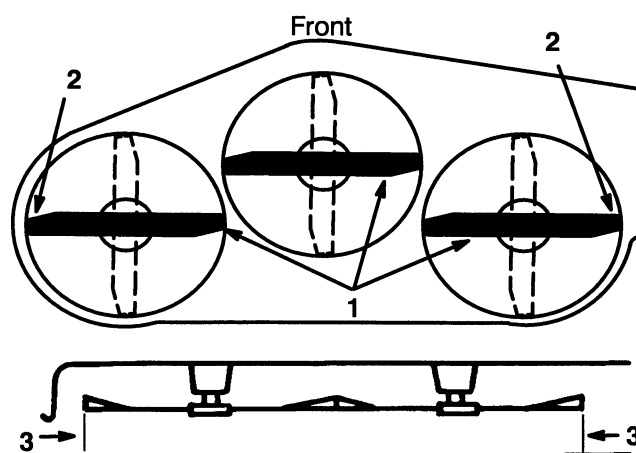

Figure 8
3. Carefully rotate blade(s) side to side (Fig. 8). Measure between the outside cutting edges and the flat surface (Fig. 8). If both measurements are not within 3/16", an adjustment is required; refer to steps 4 and 6.